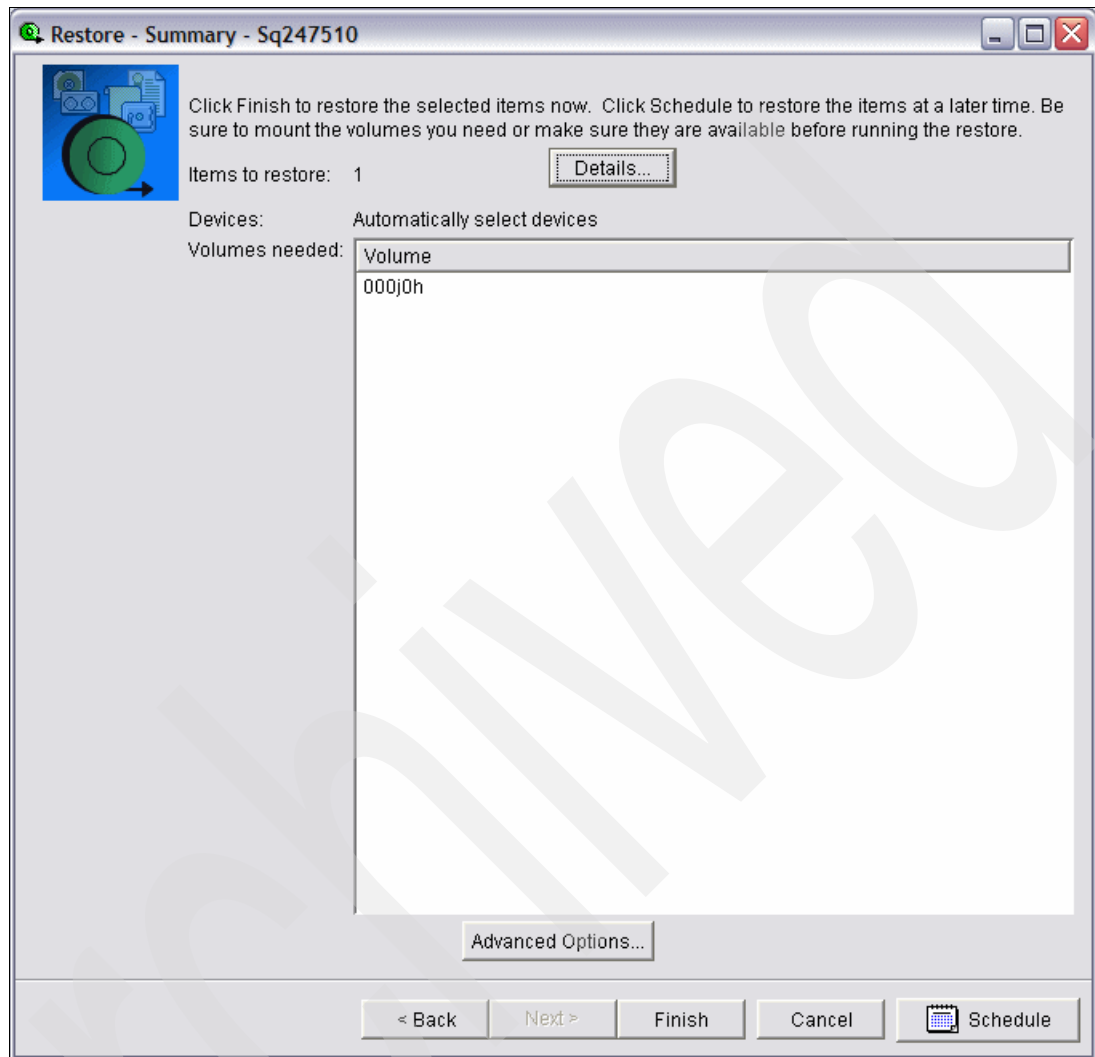

Figure 6-107 Restore - Summary
13. In the Summary window (Figure 6-107), click **Finish** (or **Schedule** to run the restore later). In our simple example, we want to run the restore now.